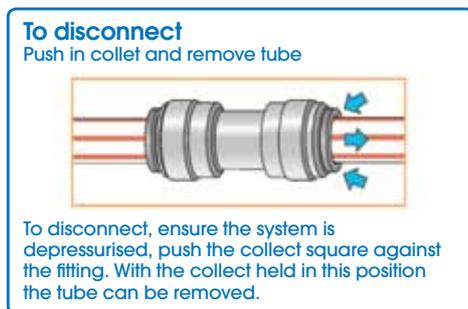
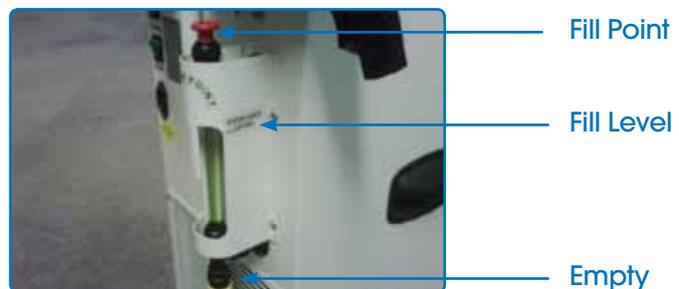

Fig. 1
Fig. 2
6. The tank and caps should be 'flushed out' using clean water. The tank can be emptied by releasing the plug from the push fitting at the bottom of the sight glass. Fig 1 below shows how to disconnect a pipe or plug from a push fit fitting. Fig 2 shows the sight glass.